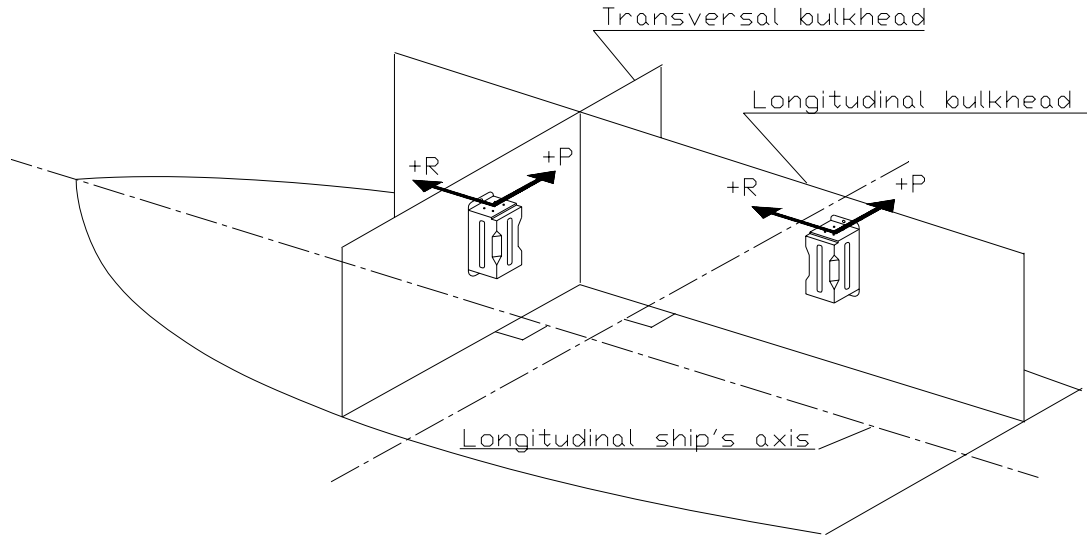

Figure 5 Recommended orientation of the MRU mounting bracket
Figure 5. This will ensure easy and accurate orientation of the MRU according to the longitudinal axis. Reserve sufficient space below the bracket to allow insertion of the MRU from below.
7. Insert the MRU into the bracket. In order to achieve the orientation as shown in Figure 5, the MRU must be rotated in the bracket. Apply Loctite 242 glue or equivalent on the four MRU screws (3).